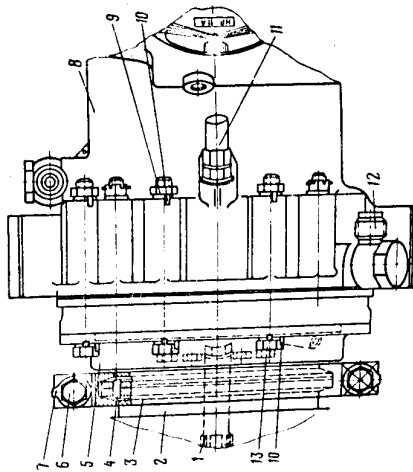

Fig.18. Installation of HP-11A Pump
12. Mount the quick release joint ring onto the flange of the HP-11A pump, as shown in Fig. 18, having fitted a gasket under it. Insert the ring holding-down bolts after placing locking washers under the bolt heads. Turn the nuts, fitted with locking washers, on the bolts. Lock the nuts and the bolts with locking washers.